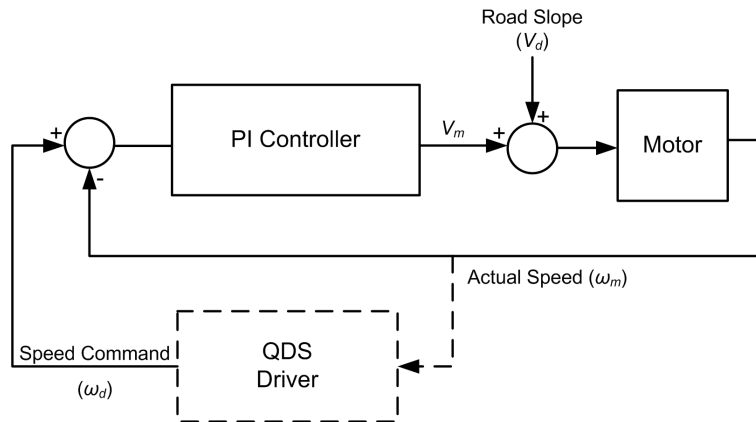

Figure 1.3: QDS speed controller
For this laboratory, you will use the QDS in conjunction with a QUBE-Servo 2 to develop a Proportional-Integral (PI) speed controller to regulate the speed of the simulated vehicle. This exercise is analogous to developing an ETC for an electric vehicle, shown in Figure 1.3. In this case, the disturbance to the speed of the vehicle is the slope of the road, which is converted into a voltage and added to the control command. The controller that you will design takes the actual speed of the QUBE-Servo 2 motor as the derivative of the encoder measurements, and the commanded speed from the internal driver controller in the QDS. The PI controller then outputs the motor voltage  $V_m$ , which is added to the slope of the road and sent to the QUBE-Servo 2. The slope of the road is provided by the sensors inside the QDS.